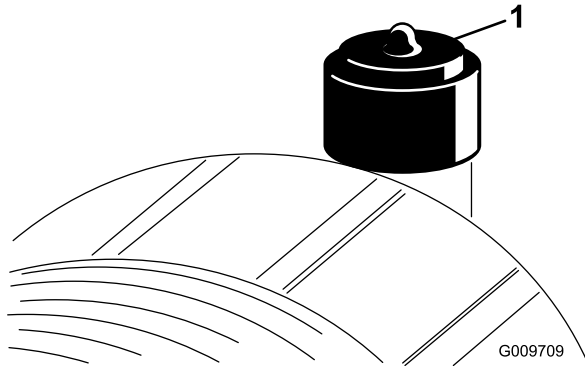

Figure 31
Service the air-cleaner filter only when the service indicator (Figure 31) requires it. Changing the air filter before it is necessary only increases the chance of dirt entering the engine when the filter is removed.
9. Reset the indicator (Figure 31) if it shows red.